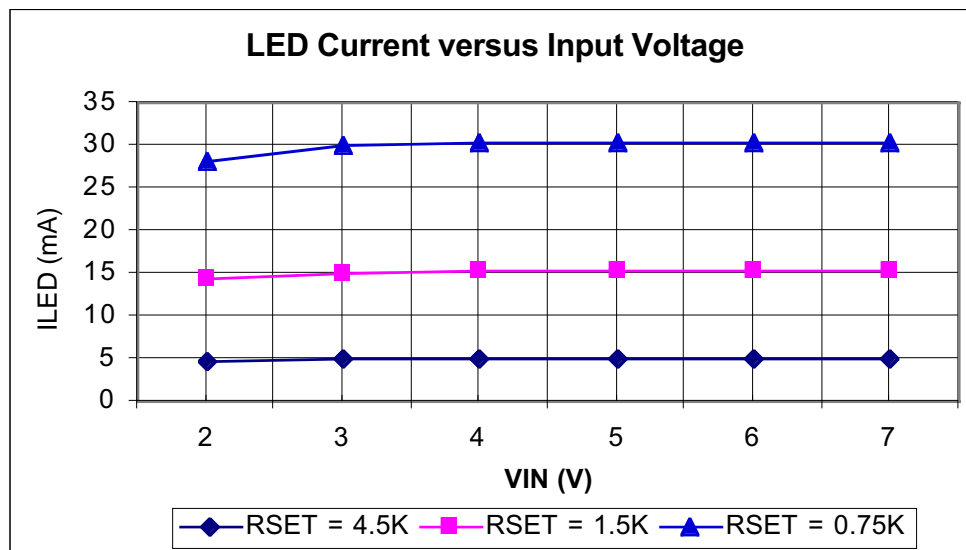

Figure 5. LED current Line Regulation
- Observe the value of ILED measured by the current meter. Figure 5 presents the ILED current versus VIN.